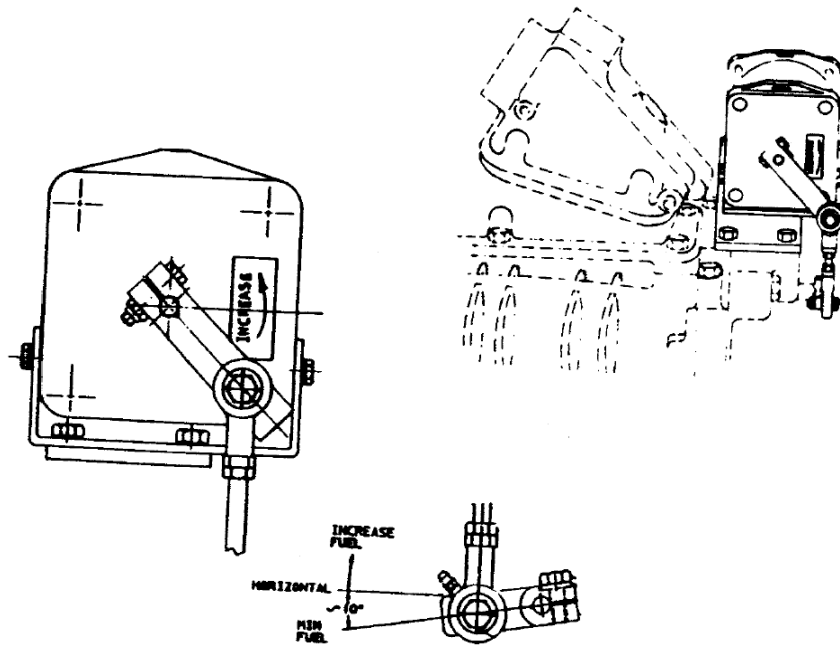

Figure 1. Linkage at Minimum Fuel
When the installation is completed, the linkage at minimum fuel should look about as it does in Figure 1. The actuator should be held about 2 degrees counterclockwise from minimum fuel by the linkage. The actuator must be able to rotate the shaft and attached racks to the maximum fuel stop, preferably about 2 degrees before the actuator will reach the maximum fuel stop. The length of the vertical link should be adjusted to supply the desired rotation of the shaft.
9. Install the threaded rod between the rod ends. Adjust the length of the rod by threading it into the rod ends until the lever locations are as shown in Figure 1.